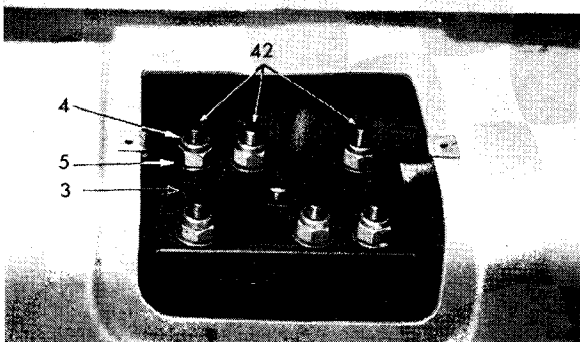

Fig. 26. Spring clamp plate attachments
7. Remove the six nyloc nuts (4) (4 nuts on GT6 Mk. 3), plain washers (5), detach the spring clamp plate (3) and unscrew the rear studs (42) from the axle casing (Fig. 26).